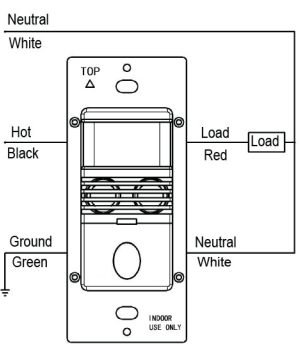

Figure 2
2. Connect lead wires as WIRING DIAGRAM (see Figure 2): Black lead to Line(Hot), Red lead to Load wire, White lead to Neutral wire, Green lead to Ground.